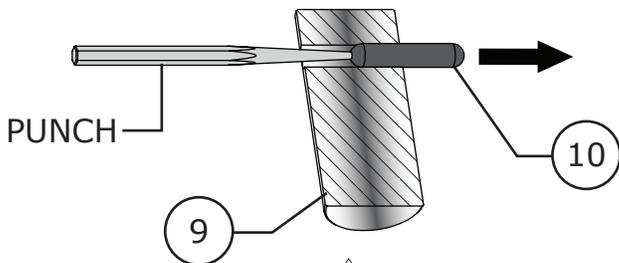

Figure 25 16 Inch Follower Shaft Pin Removal
- 6 Remove the follower shaft pin (Key 10) from the follower shaft (Key 9). Refer to Figure 25.